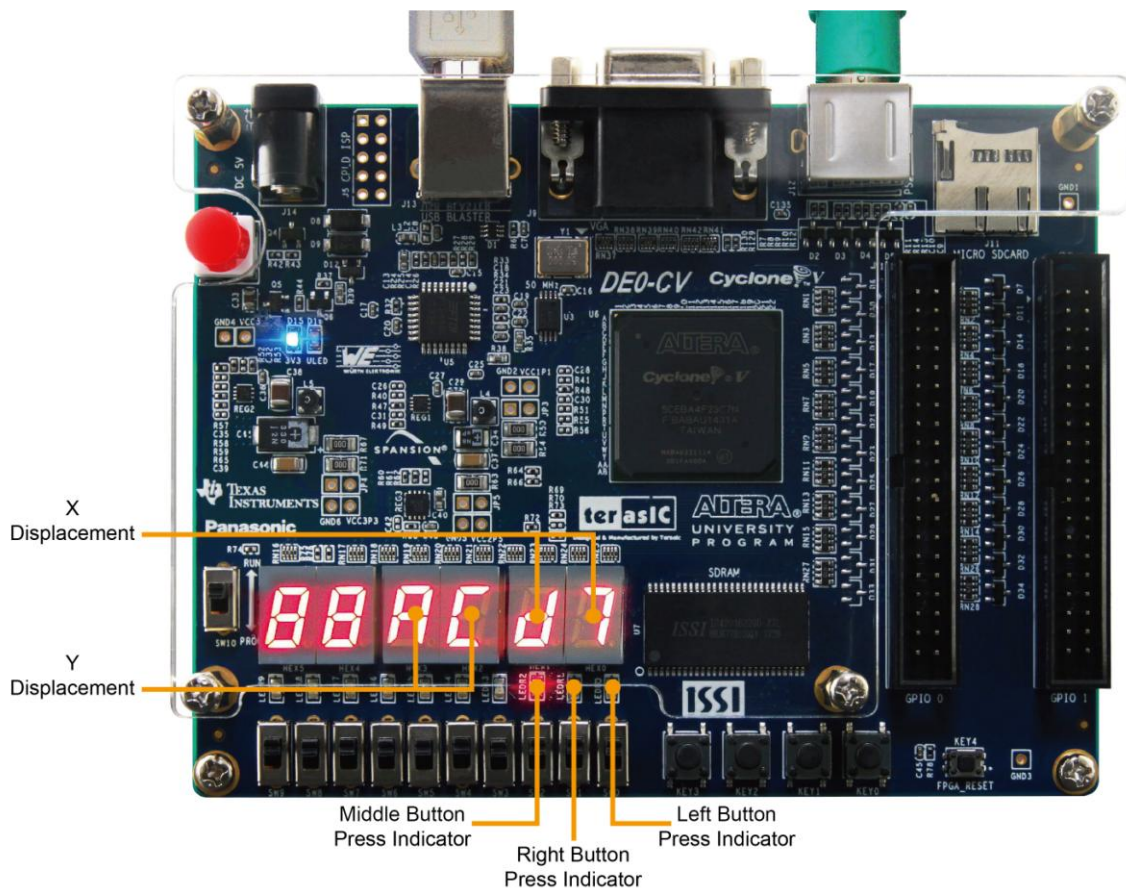

Figure 5-6 Description of 7-segment Display and LED Indicators
- The 7-segment display should change when the PS/2 mouse moves. The LEDR[2:0] will blink according to Figure 5-6 and Table 5-2 when the left-button, right-button, and/or middle-button is pressed.